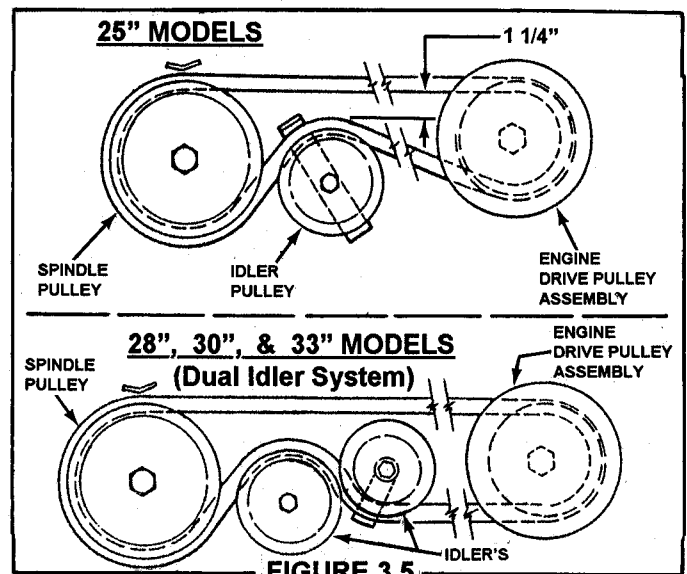

FIGURE 3.5
- Measure the belt spacing at idler pulley. See Figure 3.5. The belt spacing should be 1 1/4" but no less than 1".